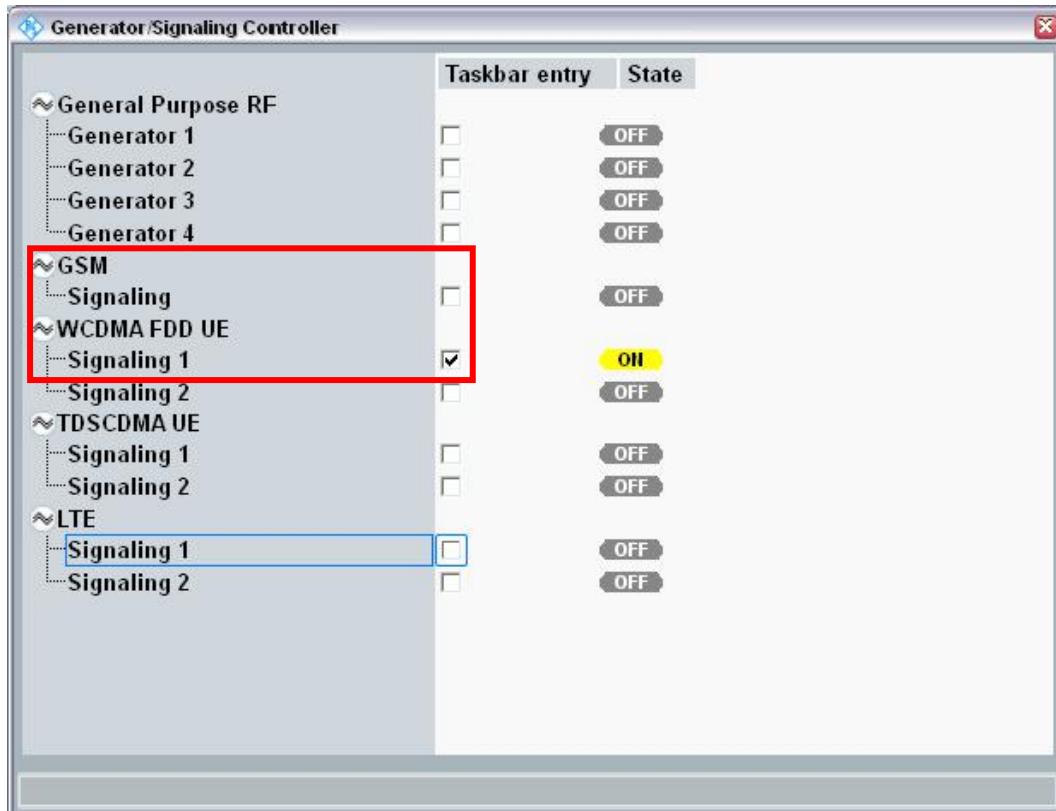

Figure 30: Selecting Signaling Task
- Press the button **SIGNAL GEN** (red box in Figure 10) and select **GSM Signaling** or **WCDMA Signaling** (see Figure 30: Selecting Signaling Task).